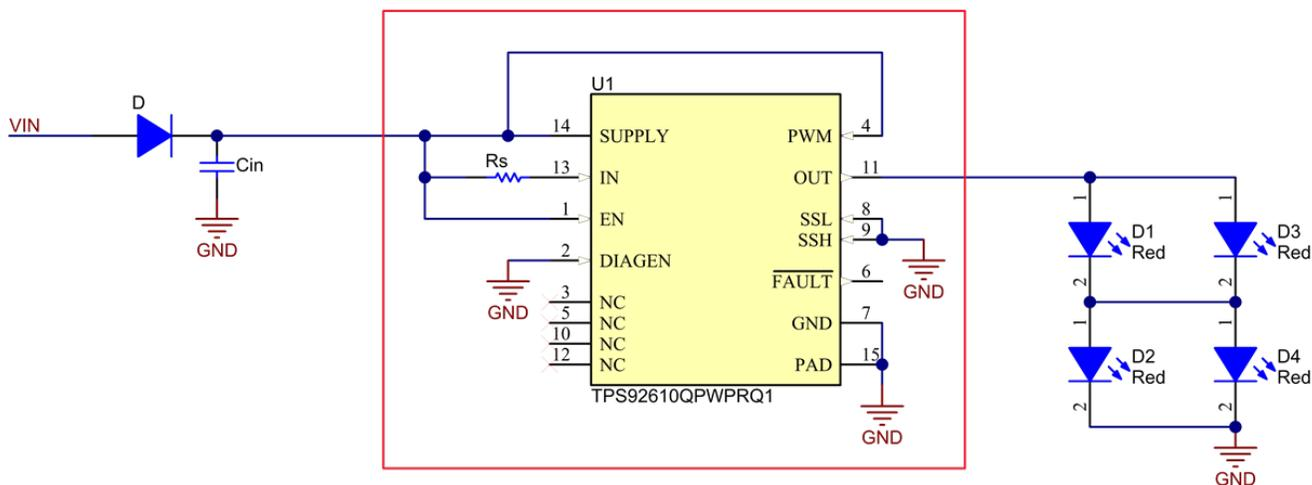

Figure 1. TPS92610-Q1 integrated LED driver circuit
Designers often realize the LED driver circuit in a CHMSL with discrete components, using separate resistors and low-side bipolar junction transistors (BJTs) or circuits. Figure 1 shows an example of a discrete LED driver circuit for a CHMSL. In this circuit, the CHMSL consists of two LED strings where each string is based on two red LEDs in series. The BJTs are on the lower side of the LEDs.
You must consider thermal performance when designing linear LED driver circuits. The circuit design and component choices have to ensure the components are not getting hot to the point of damage. Based on the schematic in Figure 1, you can see as the supply voltage increases, so does the voltage across the BJT and the resistor, thereby increasing power dissipation in these components. More power dissipation implies higher temperatures. Thus, in linear LED driver applications, the input voltage range contributes to most of the thermal concerns.
To analyze thermal issues for the schematic in Figure 1, consider an example in which the total CHMSL LED current is 90mA, so each LED string is driven with 45mA of current. With a 16V supply voltage, Equation 1 calculates the maximum voltage drop on the BJT to 9V:
Another way to drive the LEDs is to use a specific linear LED driver integrated circuit (IC) such as TI's TPS92610-Q1, as shown in Figure 1. In such driver ICs, the transistor and transistor driver circuit are all integrated in the IC. The transistor is still operating in its linear region. Because all of the components are integrated inside the IC, you only need the IC and one sense resistor for this solution.
Another key advantage is the current regulation accuracy over the full temperature range. The driver IC can maintain constant current in the IC as the forward voltage of the LEDs change with temperature. This is in contrast to the discrete circuit shown in Figure 1, which cannot regulate current in the LED as the temperature changes.
Finally, the implementation shown in Figure 1 could be cheaper than the implementation in Figure 1 when considering the number of components and the cost of each component.